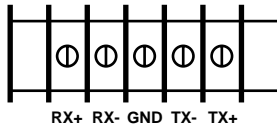

Figure 4-3. Terminal Block.
1. Locate the terminal block on the back of the unit. It should look like **Figure 4-3**.